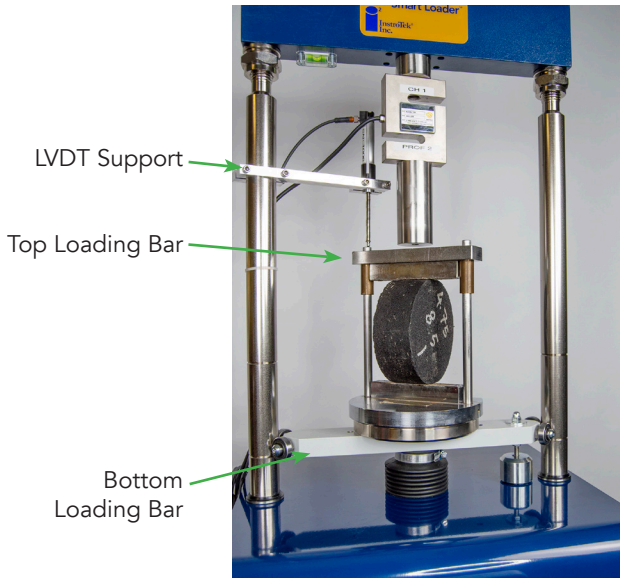

Fig 5. Lottman Breaking Jig with Asphalt Specimen
- b. **IDEAL /TSR** - Insert a specimen into the Lottman Breaking Head jig (Figure 5). Raise the top loading bar and center the specimen on the bottom loading bar. Lower the top loading bar.